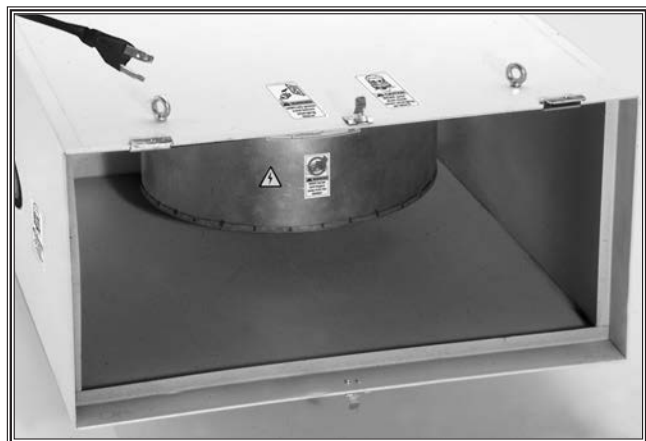

Figure 16. Air filter housing.
4. Vacuum out the inside of the air filter housing. See Figure 16.